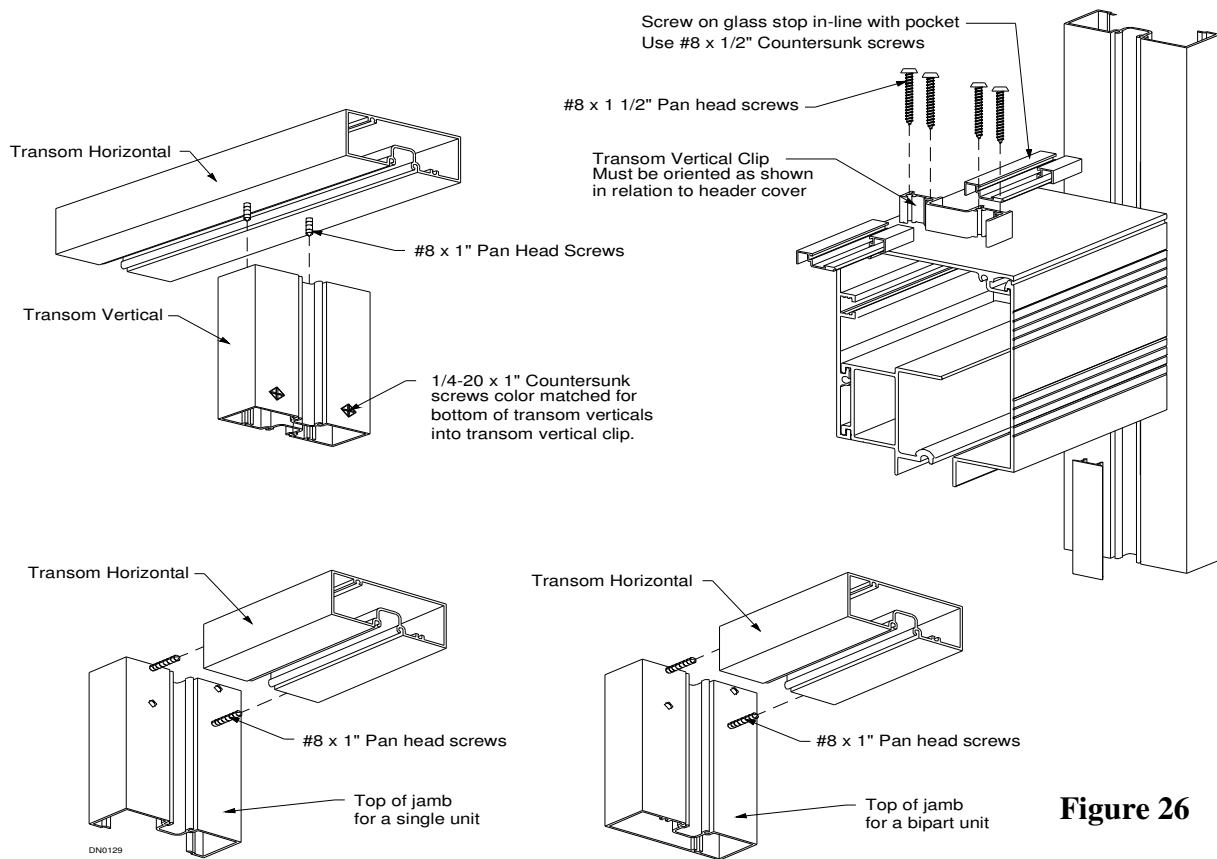

Figure 26
1. Attach transom clips to top of header using #8 x 1 1/2" Long screws provided (See Figure 26 & 27).
3. Install screw down glass stop in-line with glass pocket in jamb tube (See Figure 26).